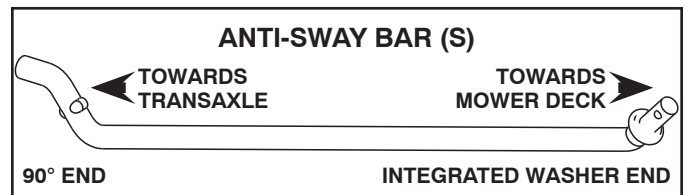

Fig. 8
5. INSTALL ANTI-SWAY BAR (S) (IF EQUIPPED) (See Fig. 8 - 9)